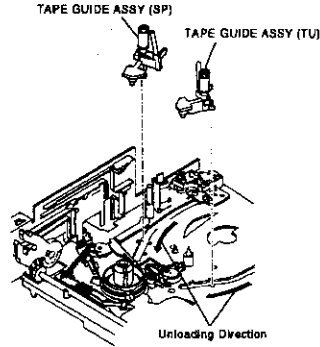

Fig. 2-35-1
- 1 Move the TAPE GUIDE ASSY (SP) shown in Fig. 2-35-1 fully to the unloading position to remove it.
- 2 Move the TAPE GUIDE ASSY (TU) shown in Fig. 2-35-1 fully to the unloading position to remove it.
- 2 Install the TAPE GUIDE ASSY (TU) shown in Fig. 2-35-1.
- 3 Install the TAPE GUIDE ASSY (SP) shown in Fig. 2-35-1.
- 4 Perform adjustments from "GUIDE ROLLER Adjustment" in item 3-2-1 to "Adjustment of FM Waveform Flatness" in 3-2-5 of "Interchangeability Adjustment of the Mechanism".